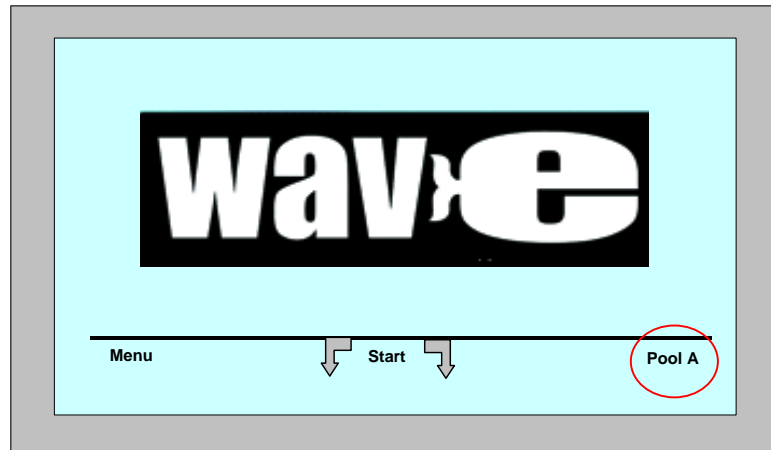

Figure 9: Wave screen showing Pool A as default setting
1. Go to the Wave screen. "Pool A" is displayed as the currently defined setting as shown in Figure 9.
- From the *Wave* screen, press the currently displayed pool setting at the right side of the screen (see Figure 9) to open the *Pool Profile* screen.